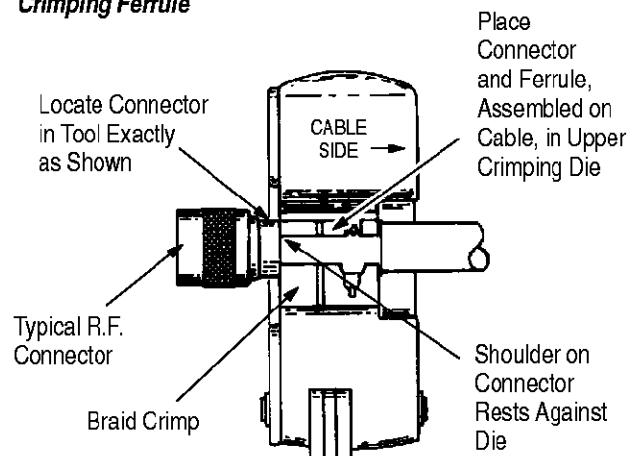

Figure 3
1. Place connector assembly in tool as shown in Figure 3. **MAKE SURE** that the ferrule assembled on the cable is on the upper crimping die, and that the shoulder on the connector rests against the die, as shown.